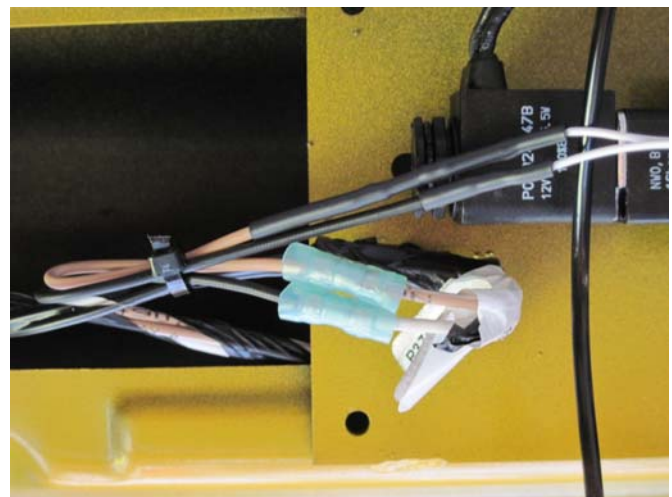

Figure 9
8. Splice the new switch to the body harness; black switch wire to white body wire, and tan to tan. Pull on the wires from each side of the splices to ensure a good connection was made. **Figure 9**